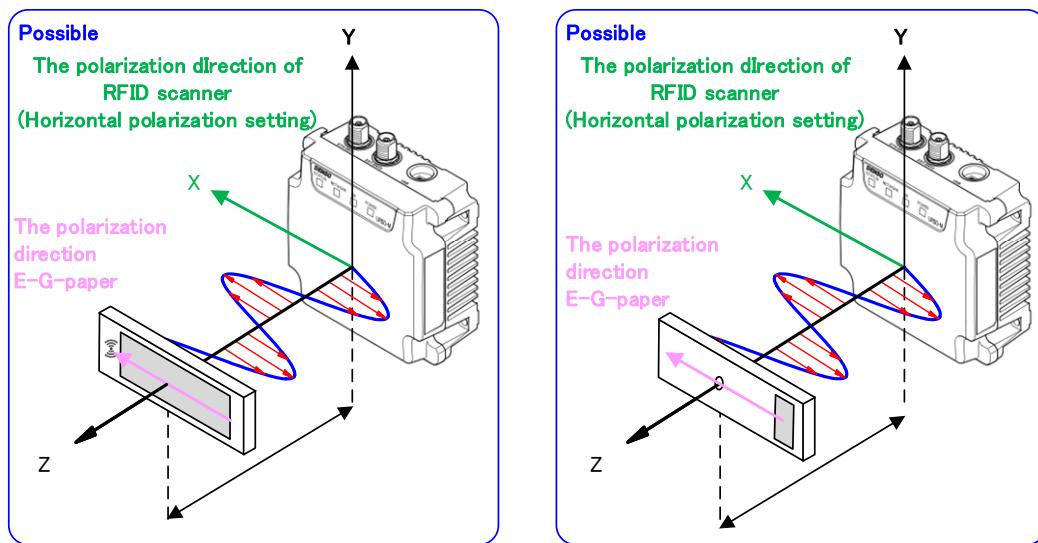

Figure 7.5 An Example of Good Communication Arrangement
- Good communication can be achieved when E-G-Paper is placed in the X-axis direction. Good communication can be achieved either when the display side of the tag is facing the RFID scanner or when it is facing the same direction as the RFID scanner. Referring Figure 7.5.